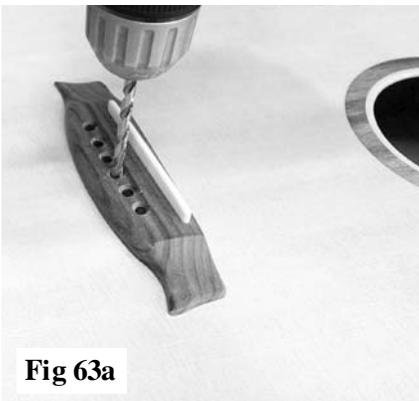
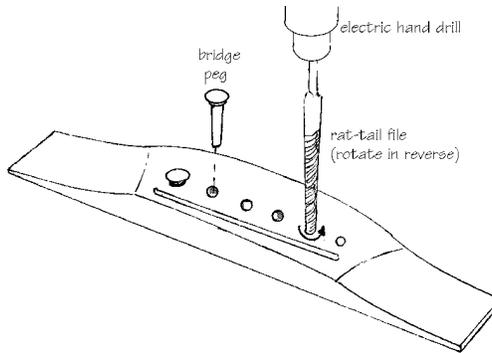
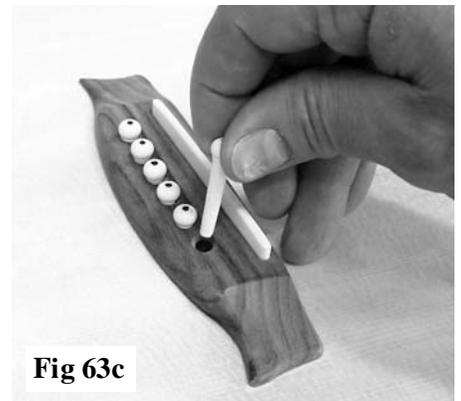

Fig 63a
Fig 63b
Fig 63c
63. Drill through the remaining holes in the bridge with the 3/16" bit provided (fig 63a). These holes need to be slightly tapered to accept the bridge pegs. A cheap and simple way to do that is to use a small (6") rat-tail file (fig 63b). You can chuck it into your hand drill and spin it in reverse as you push it gently into the hole. Be careful not to file too far -- it is best to fit the pegs fairly snugly (fig 63c).